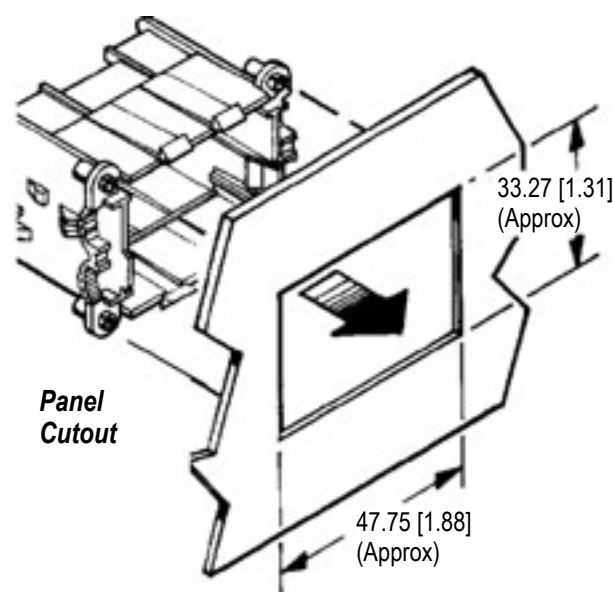

Figure 5
4.1. Unshielded Option (Figure 5)